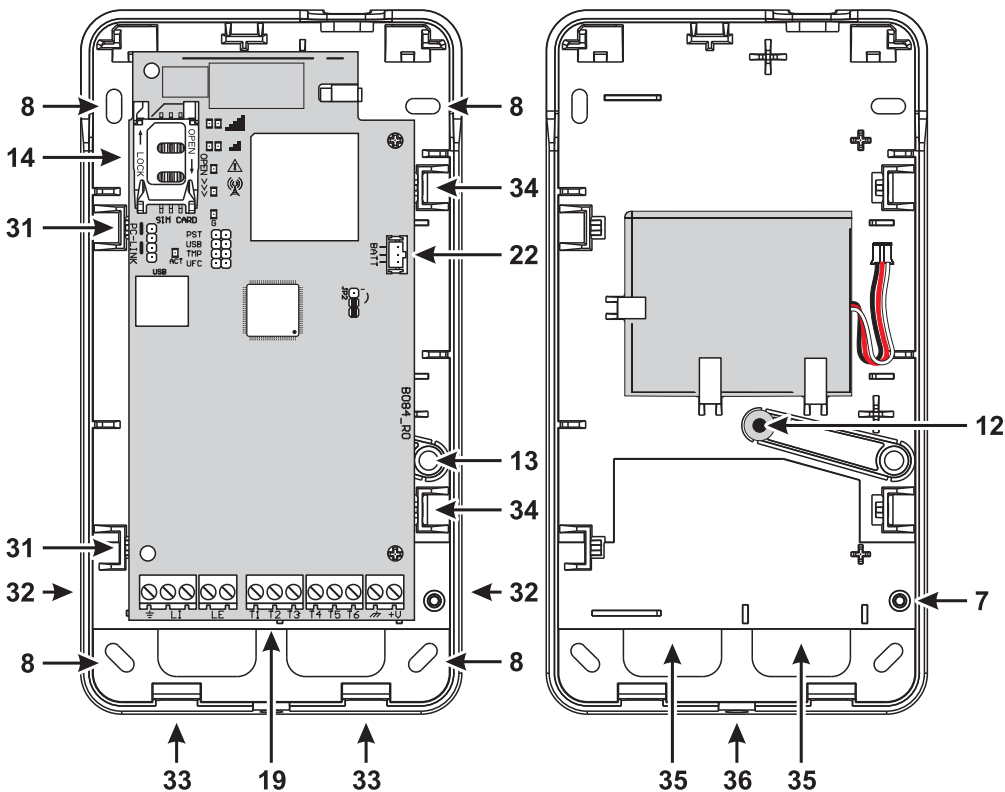

Figure 4 – Installing the communicator with housing.
The version with housing must be mounted to a wall with screws and plugs (not included) as described below and shown in figure 4.
4. Fit the battery as shown in figure 4.